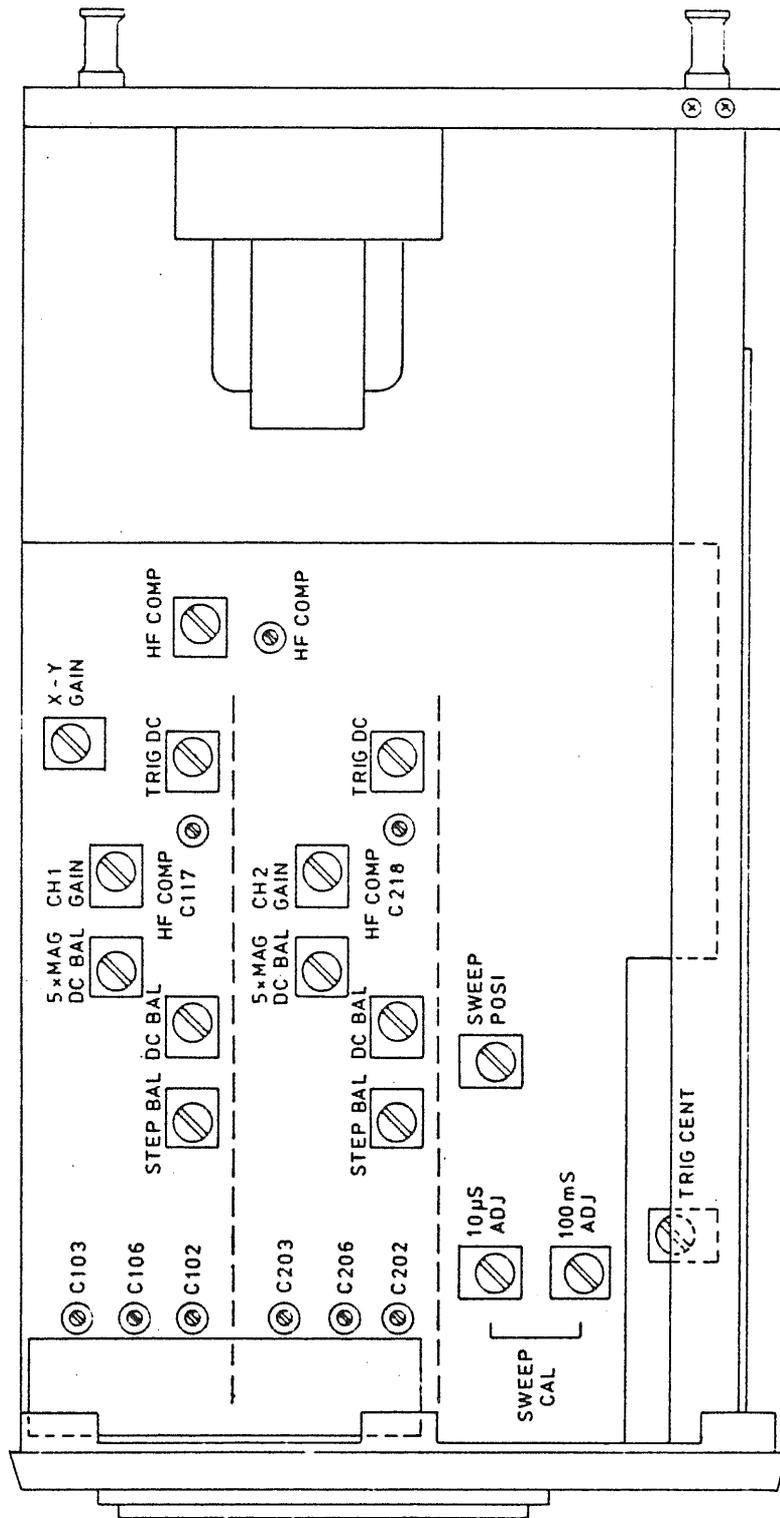

Figure 24
- (1) Set the    GND switch in the    GND state and display the trace on the CRT screen.
- (2) Turning the VOLTS/DIV switch between 0.2V and 0.5V positions, so adjust the STEP BAL control (see Figure 24) that the shift of the trace becomes minimum.
- (2) Turning the VARIABLE knob, so adjust the DC BAL control that the shift of the trace becomes minimum. (See Figure 24)
- (1) Set the pulse generator output at 8 times of the voltage ( $V_{p-p}$ ) indicated by the VOLTS/DIV switch and apply this signal to the vertical INPUT terminal.
- (2) Set the VARIABLE knob in the CAL'D position and the VOLTS/DIV switch in the 5 mV position, and so adjust the GAIN ADJ control (Figure 24) that the deflection amplitude on the CRT screen becomes as set in (1) above.
- (1) Set the TIME/DIV switch in the 10  $\mu$ sec position and apply a time marker signal of 10  $\mu$ sec or a sine wave signal of 100 kHz to the vertical input terminal of the oscilloscope. Deflect the signal with an appropriate amplitude on the CRT screen by adjusting the input signal level or oscilloscope gain.
- (2) So adjust the 10  $\mu$ S SWEEP CAL control (see Figure 24) that the displayed waveform conforms with graticule divisions.
- (3) Set the TIME/DIV switch in the 10 msec position and apply a time marker signal of 10 msec or a sine wave signal of 100 Hz to the vertical input terminal of the oscilloscope.
- (4) So adjust the 10 mS ADJ control (see Figure 24) that the waveform conforms with graticule scale divisions.
- (2) Set the TIME/DIV switch in the 1 msec/DIV position.
- (3) So adjust the SWEEP POSITION control (semi-fixed resistor, see Figure 24) that the start position of the sweep is brought to the left-hand end of the graticule.
- (1) Set the signal generator at a voltage ( $V_{p-p}$ ) of 10 times of the value indicated by the VOLTS/DIV switch. Apply this voltage signal to CH1.
- (2) So adjust the X-Y GAIN (Semi-fixed resistor, see Figure 24) that the displayed signal amplitude is aligned with both ends of the graticule.